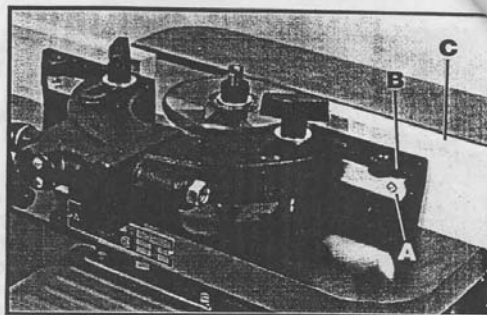
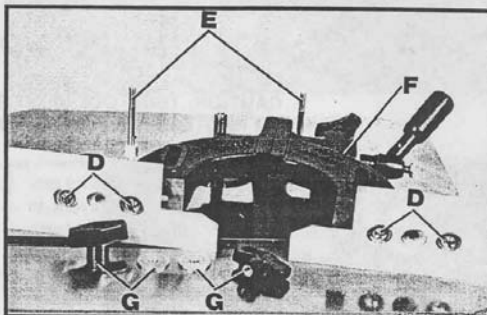

Fig. 14
Fig. 15
1. Place the clamp plate (A) Fig. 14 behind the fence body (B) as shown.
2. Place the wooden fence (C) Fig. 14 against the fence body (B), align the holes and fasten with two 5/16-18 x 1-1/4" screws and washers (D), Fig. 15.
4. Thread the two clamp studs (E) Fig. 15, into the tapped holes in the table.
5. Place the fence assembly (F) Fig. 15, over the two clamp studs (E) and fasten with two washers and knobs (G).